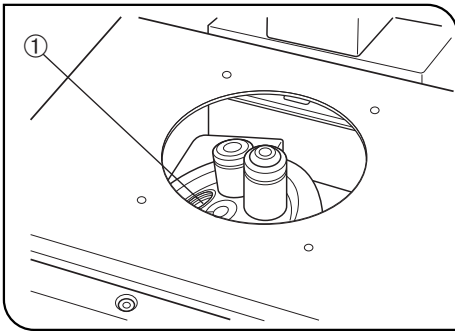

Fig. 74
(Fig. 74)
- ② Attach the objectives in such a manner that the magnification increases from low to higher powers in a clockwise direction.
- ★ In the inverted microscope, the front lens of the objectives faces upward, and is more exposed to contamination than the objectives of upright microscopes. Therefore, if there are empty positions ① in the nosepiece, attach the dust caps provided. (Fig. 74)